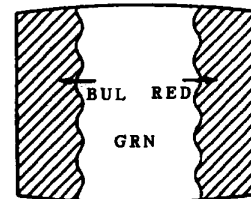

Fig. 3
4. Move the deflection yoke backward and adjust with the purity control so that green is in the center and red and blue are at the sides evenly. (Fig.3)